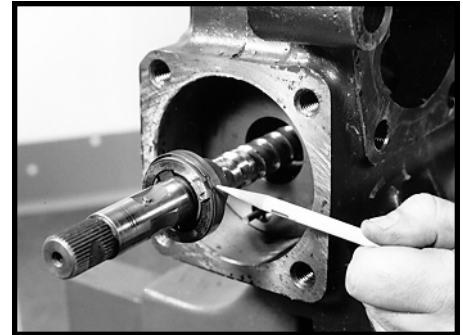

Figure 60
WARNING: DO NOT DISASSEMBLE THE WORM SHAFT/INPUT SHAFT ASSEMBLY (17) WHICH INCLUDES THE WORM SHAFT, INPUT SHAFT, TORSION BAR, TORSION BAR PINS, DRIVE RING AND DRIVE RING RETAINER, AND INSERT. DO NOT UNBEND THE DRIVE RING RETAINER TANGS THAT HOLD THE DRIVE RING IN PLACE. SEE FIGURE 60. DOING EITHER WILL ALTER THE VALVE TIMING, WHICH COULD CAUSE THE VEHICLE TO PULL TO ONE SIDE OR THE OTHER.